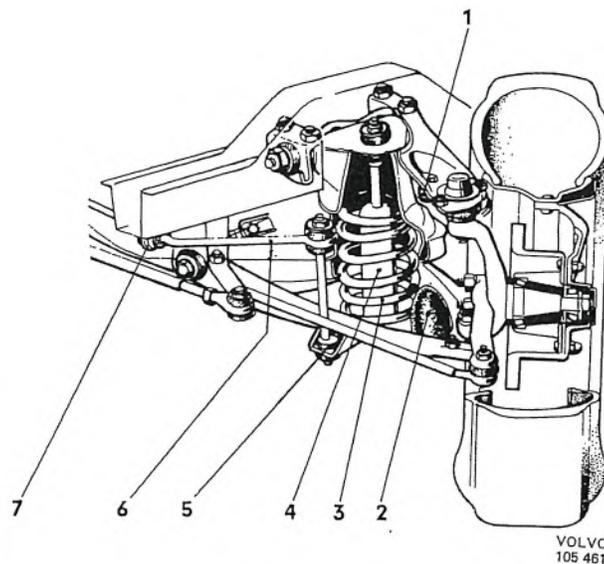

Fig. 7-2. Front spring and shock absorber
The 1800 is fitted with coil springs at front and rear. The front wheels have individual suspension. The upper ends of the front springs (3, Fig. 7-2) are seated in housings formed in the front axle member, and the lower ends in the lower control arms. The lower control arms are also provided with rubber buffers (2), for absorbing any impacts arising from loading on the spring. The upper control arms
The stabilizer (6, Fig. 7-2) which is attached to both the lower control arm and the frame, increases the stability of the vehicle.